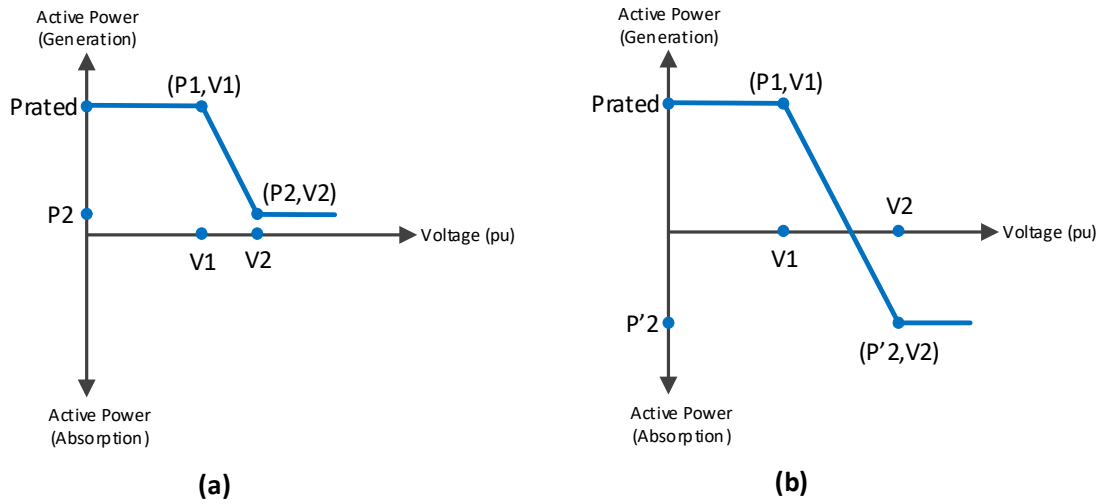

Figure 2-2. Example Volt-Watt characteristics
- Figure 2-2. Example Volt-Watt characteristics7
Two examples of these characteristics are shown in Figure 2-2. The characteristic shall be configured in accordance with the default parameter values specified in Table 2-7.